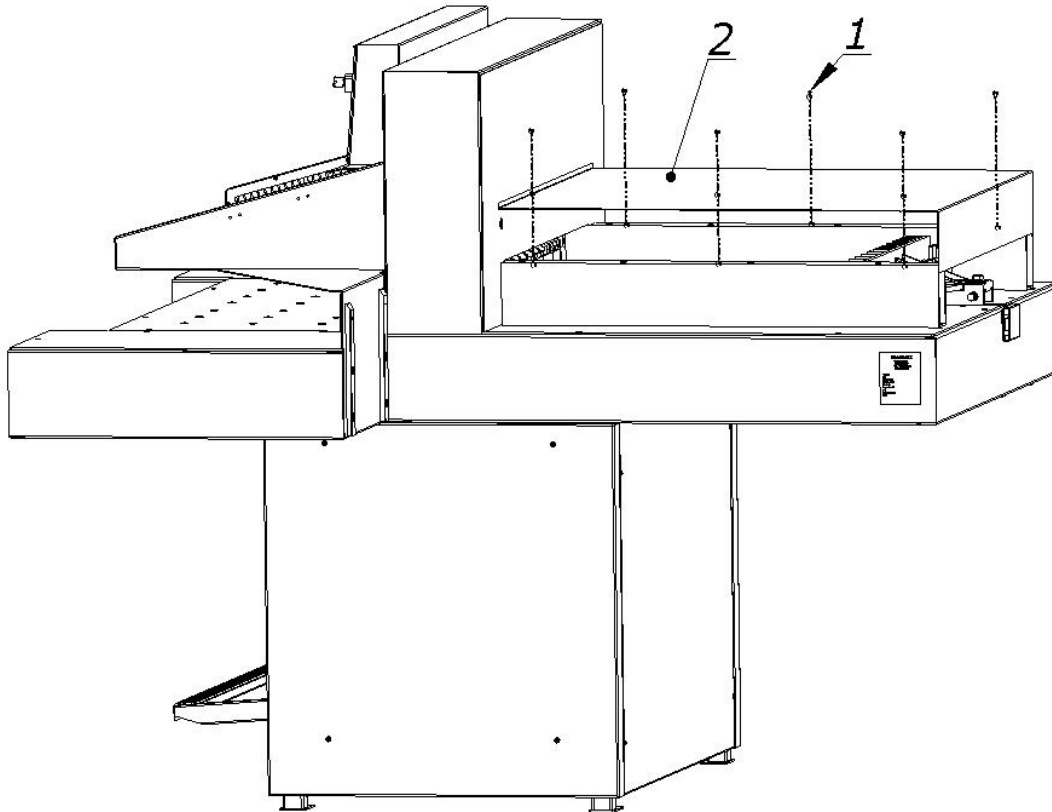

Figure 42 How to remove the cover
8.4.1 unscrew the screws 1 (fig.42)
8.4.2 remove the cover 2 (fig.42)